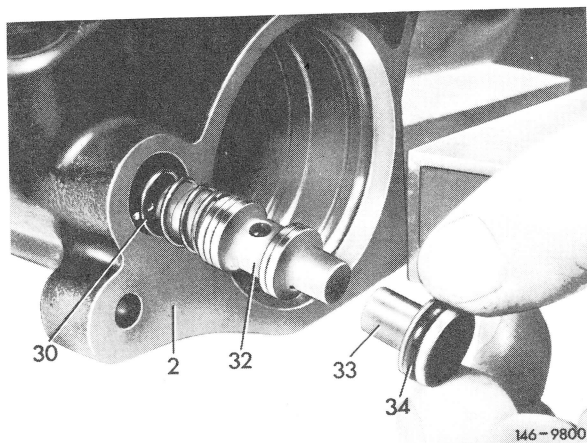

Fig. 7
11 Remove closing plug (34), volume control valve (32) and compression spring (30) from housing (Fig. 7).